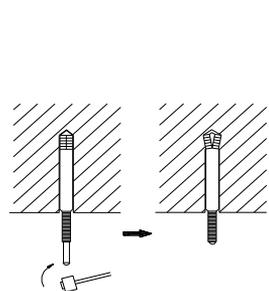

Fig.4.4
- (2) Insert the anchor bolts into the drilled holes, and drive the pins completely into the anchor bolts with a hammer (Fig. 4.4).